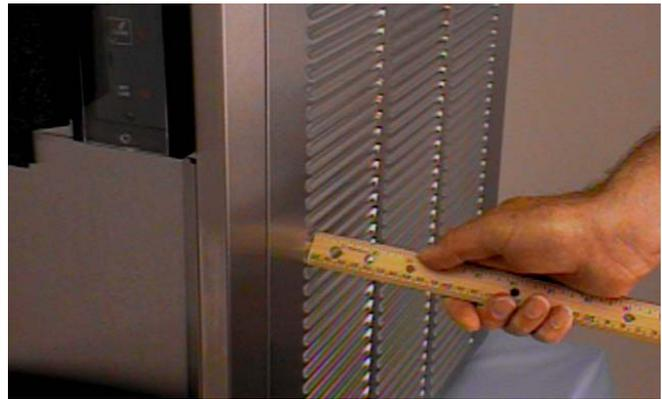

Figure 5. Space and Ventilation Requirements
- C. The freezer is equipped with an air cooled condenser and requires correct ventilation. The right side of the freezer is the air intake and left side discharge. Both sides must have 3" clearance the top requires 10" of clearance. (Fig. 5).